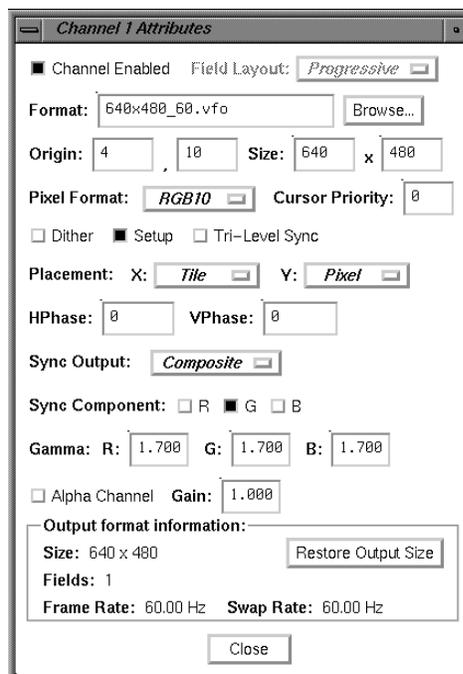

Figure 3-14 The Combiner Channel Attributes Window
7. Move to the right Origin box (the y-origin box) and replace the value with a 10, then press <Enter>. See Figure 3-14 for an example.